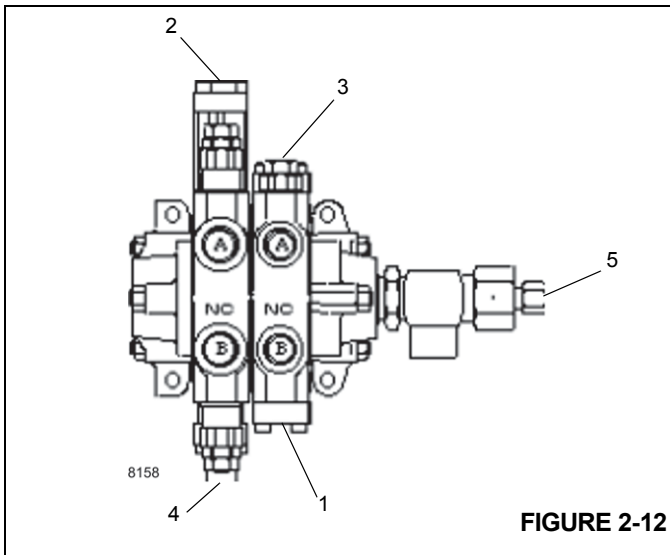

FIGURE 2-12
1. Install pressure check diagnostic quick disconnect with gauge onto test nipple at swing valve inlet test port (5, Figure 2-12).
2. Run the engine at full RPM and steer full right or full left and hold. Check the pressure and adjust the relief valve (3, Figure 2-12) to 172 bar  $\pm$ 4 (2500 psi  $\pm$ 50).